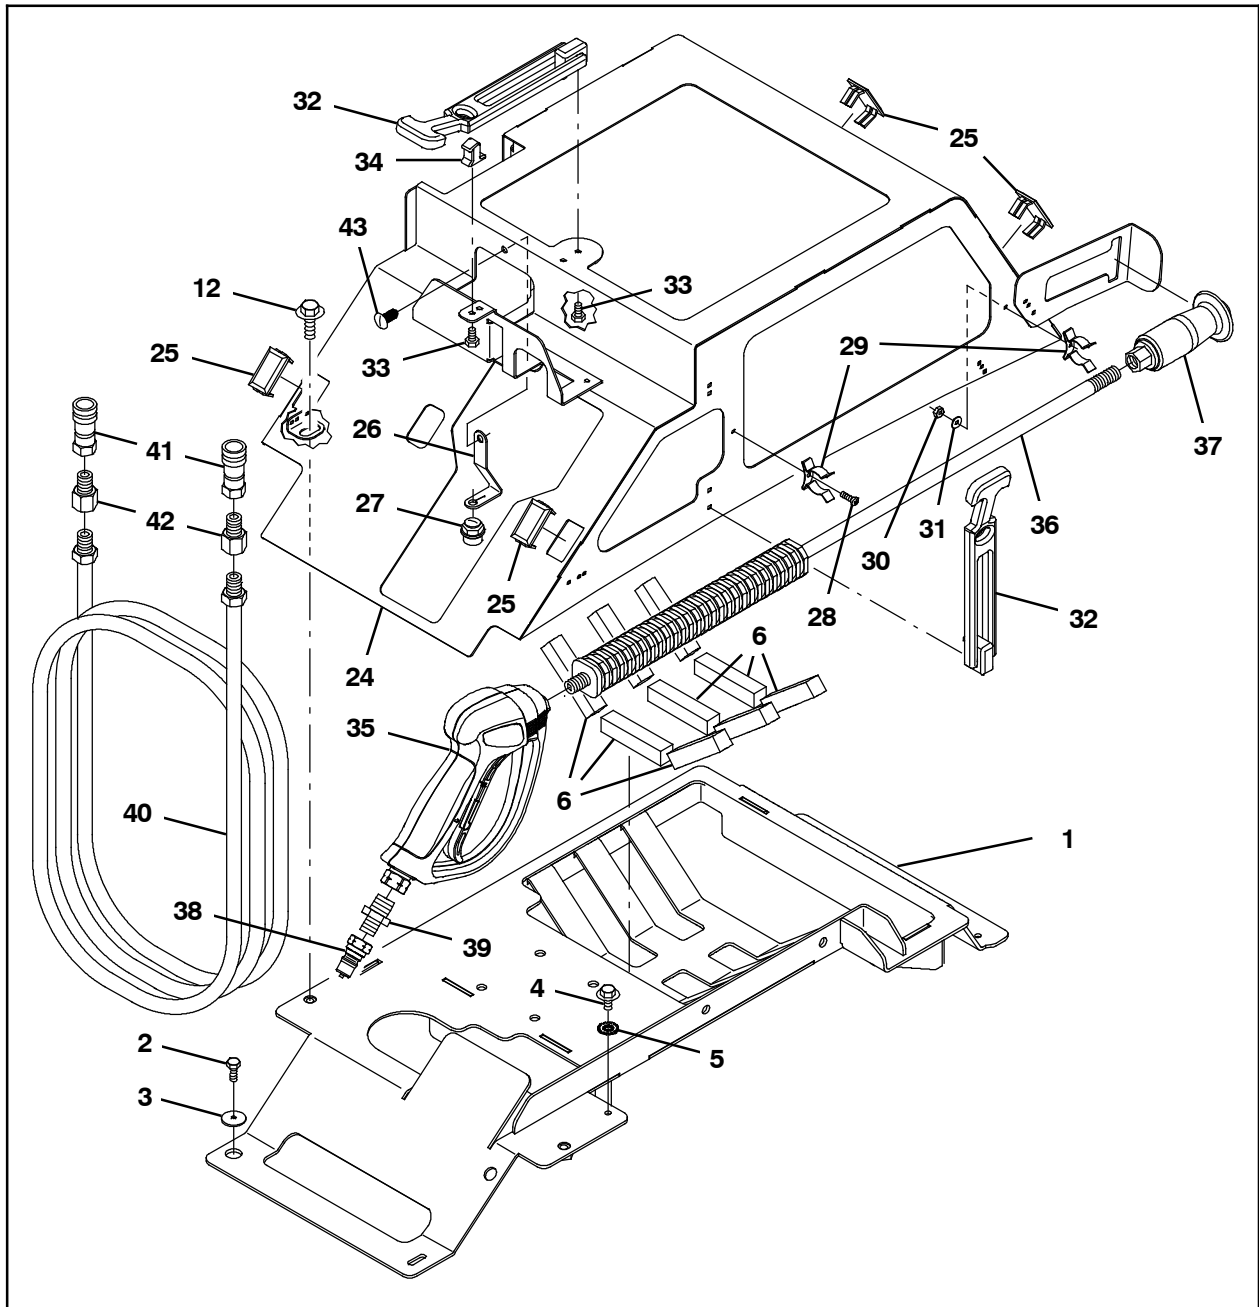

FIG. 11
41. Install the power washer cover (24) onto the power washer assembly. (Fig. 11)
42. Assemble remaining hardware and components onto the power washer cover (24). (Fig. 11)
43. Assemble the power sprayer wand (35) (36) (37) (38) (39) and hose (40) (41) (42) and connect the hose to the power sprayer assembly. (Fig. 11)